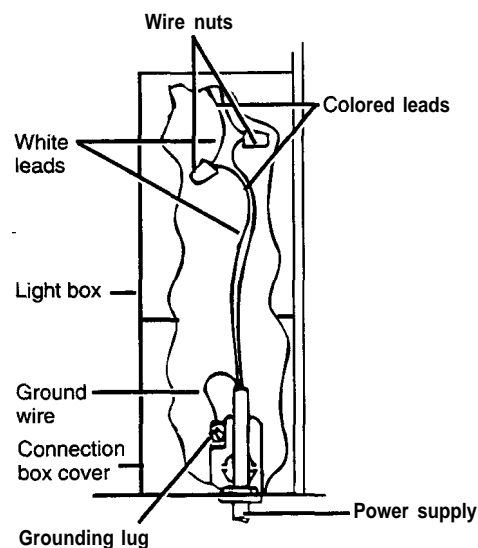

FIGURE 13
4. Connect the colored incoming power supply lead to the stripped black lead and connect the incoming white neutral lead to the stripped white lead in the connection box as shown in Figs. 13 and 14. Make connections in the hood in accordance with local codes.
5. A ground lug is provided for proper grounding of the hood frame. It is recommended that the hood frame be grounded in accordance with National Electrical Code and local codes (see Figs. 13 and 14).